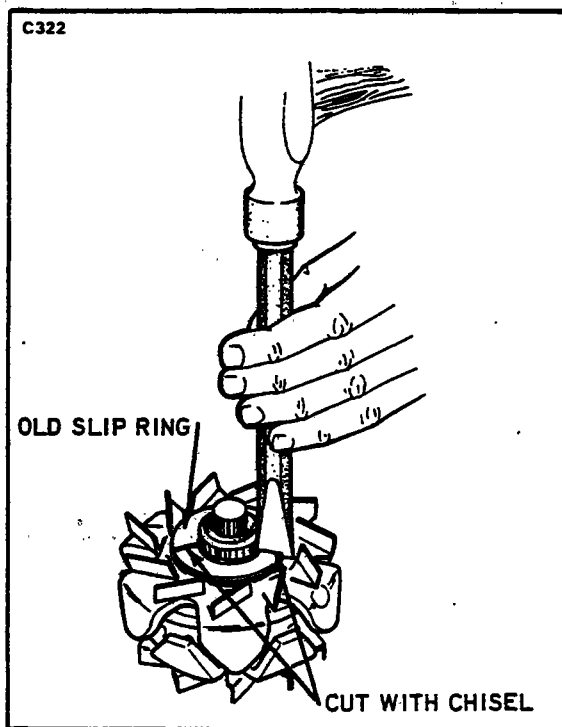

Figure 11-32. Removing Slip Ring
**11-63. REMOVING SLIP RINGS. (Refer to Figure 11-32.)**